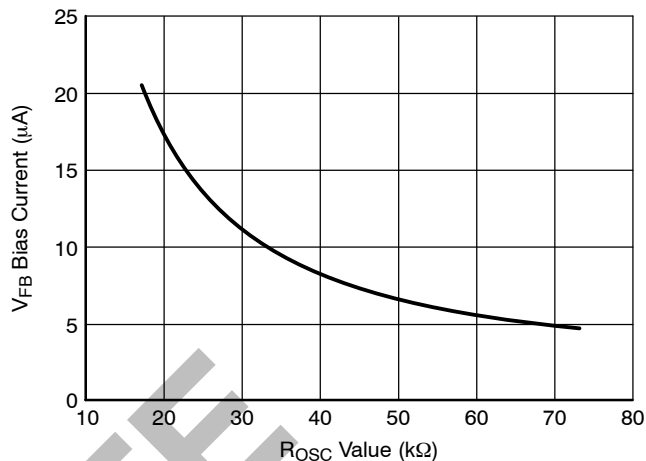

Figure 4. VFB Bias Current vs. Rosc Value
- The  $V_{\text{FB}}$  Bias Current changes with the value of  $R_{\text{OSC}}$  per Figure 4.